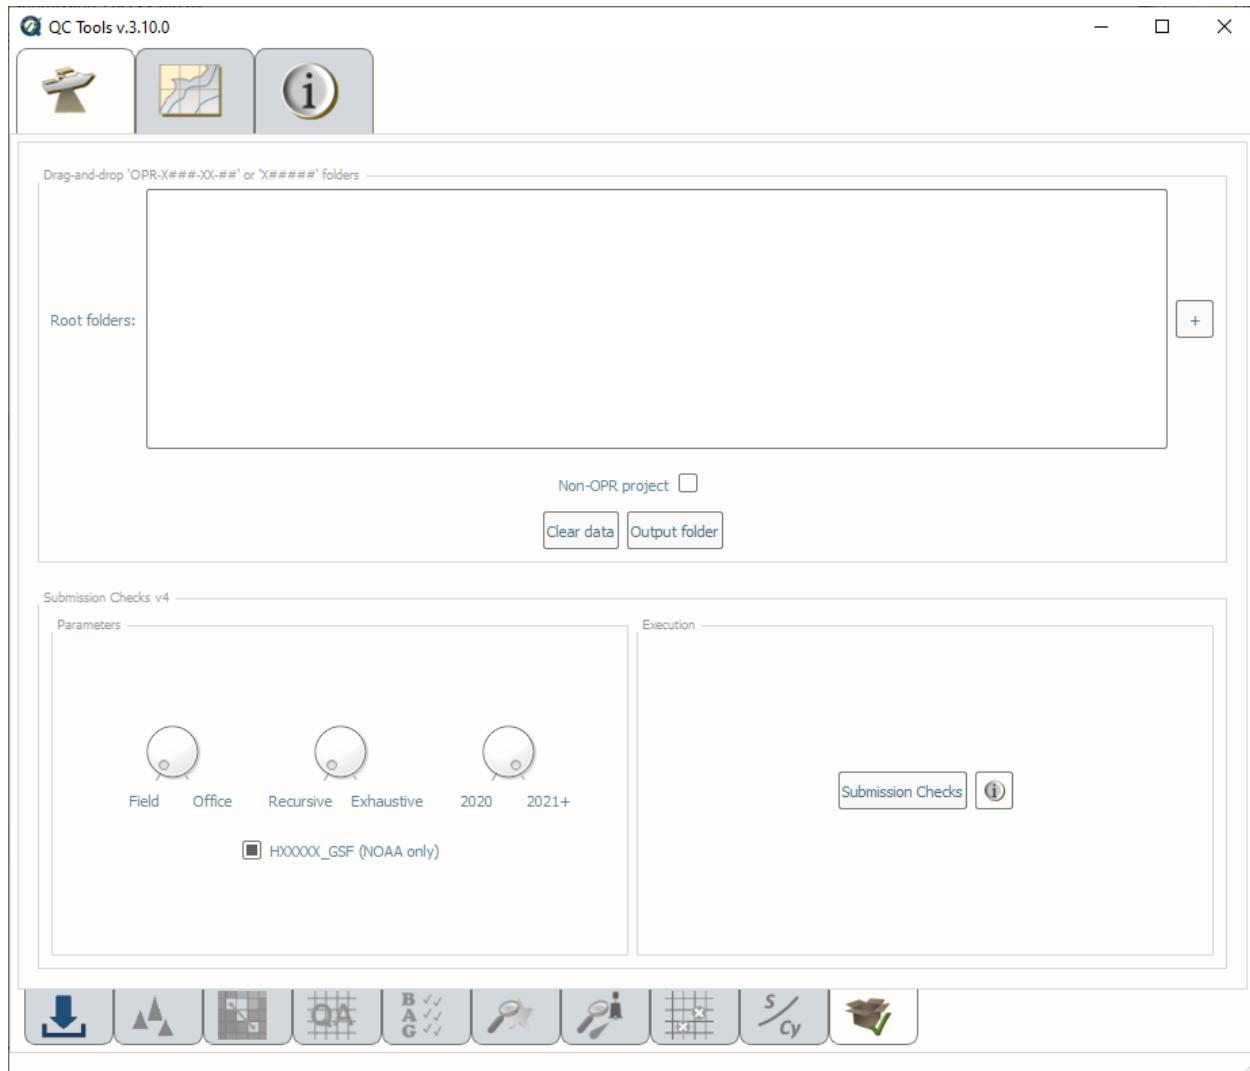

Fig. 2.66: The **Submission check** interface.
- In **Parameters** (Fig. 2.66, left side):
- In **Execution** (Fig. 2.66, right side), click **Submission checks v4**.